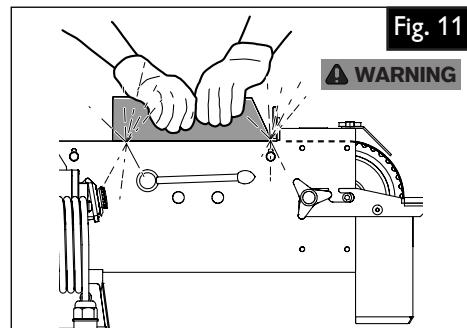

Fig. 11
9.7 Face grinding (Figure 11).
- Guide the workpiece with both hands and remove it to upward after the working procedure. (Figure 11)